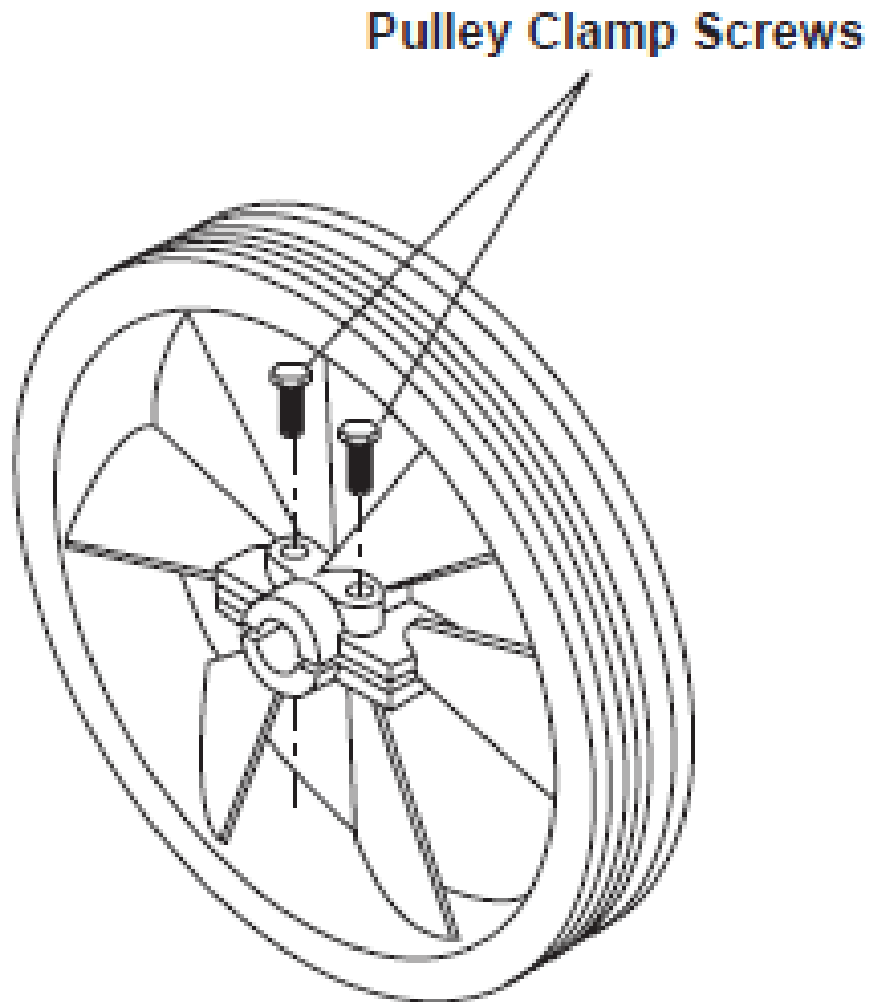

Figure 551-88L-2045_07
(1) Tightness of pulley and pulley clamp bolts, (refer to Figure 551-88L-2045_07).